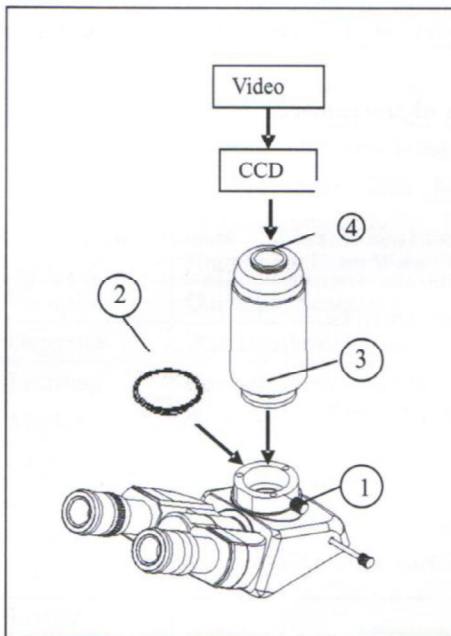

Fig.30
5-1-2 Installing the Video Set (Fig.30)
1. Loosen the locking bolt① on the trinocular viewing tube, and take out the dust cap②.
2. Remove the dust cover on the both ends of the video accessories③, and revolve the CCD/CMOS set into the screw thread end---the video adapter④ with C mount..
3. Install the video accessories③ into the tri-through port as shown in fig.30, and screw down the bolt①.
5-1-3 Focus (Fig.30)